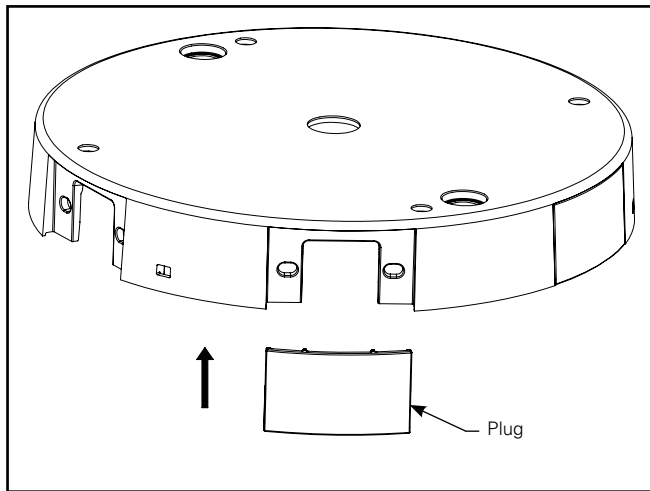

Figure 2.1.
2. Insert the plugs into unused openings in HUB top cover based on the shape/pattern you are trying to achieve. (Figure 2.1).